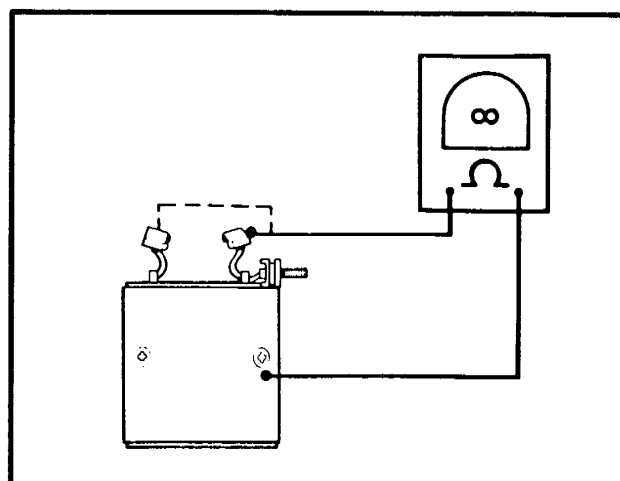

Figure 5-39. Grounded Field Test
- See Figure 5-39. Check for **GROUNDING FIELD WINDING** with an ohmmeter or continuity tester. Touch one probe to the frame, and the other probe to each of the brushes attached to the field winding. There should be no continuity (infinite ohms). If there is any continuity at either brush, the field winding(s) are grounded and the field frame should be replaced.